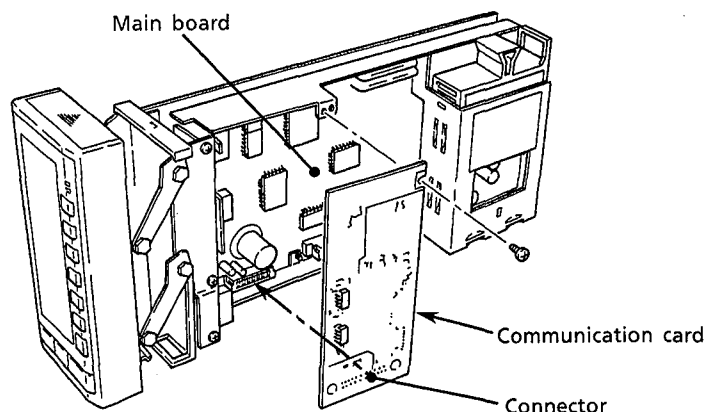

Figure 11.8 Replacing the Communication Card
- ① Swing up the front panel, and remove the internal unit.
- ② Loosen the fixing screw with a screwdriver.
- ③ While pushing the communication card slightly to the left, pull the right side of the communication card to the front so that it comes to the front of the fixing screw.
- ④ Hold the left and right parts of the connector part, and pull out the card to the front (see Figure 11.8).
- ⑤ When the card is for YS-net communication, it is still connected to the main board through a flat cable (omitted in the figure below). So disconnect the connector at the main board side.
- ① Mount a new communication card by performing the reverse of the steps for "How to Detach" above.